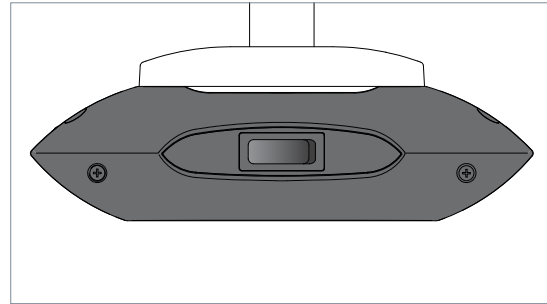

Fig. 15: Button.
- Press the button, see Fig. 15.
- Press the button and keep it depressed, see Fig. 15.